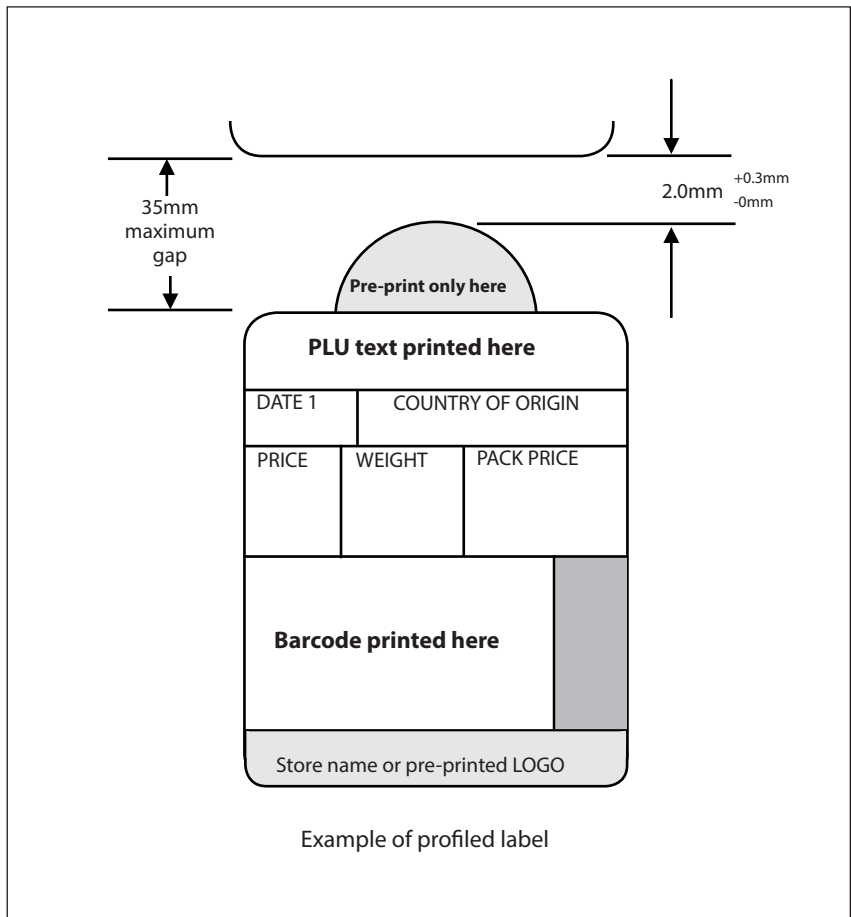

Figure 1b.
c) To allow for profiled labels, the maximum permissible separation is 35 mm. Refer to figure 1b.